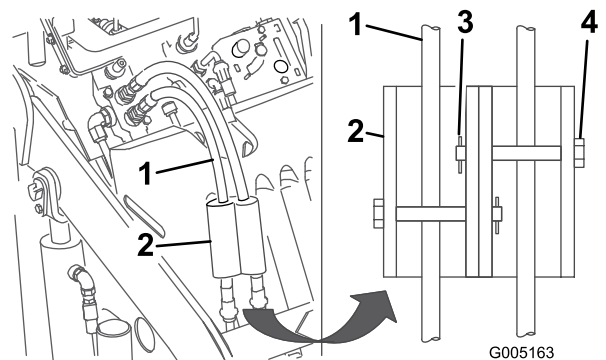

Figure 21
7. Install the cylinder locks over the hydraulic hoses and secure them with the clevis pins and cotter pins (Figure 21).